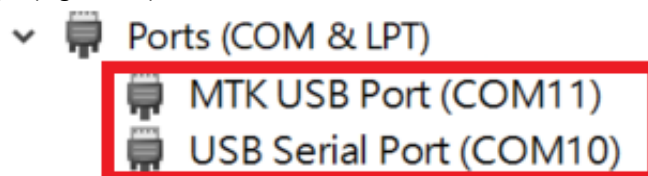

Figure 5-2. Device Manager
2. In the device manager (Figure 5-2), confirm the correct UART / USB COM.